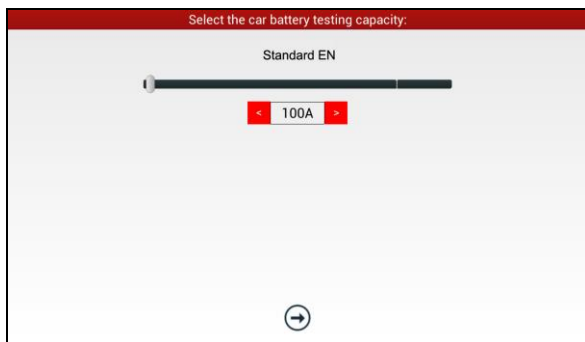

Fig. 11-6
6. Select a testing standard except for JIS and tap , a screen similar to Fig. 11-6 will appear. Users can adjust capacity size by tapping on < or > or by dragging the slider on the bar.